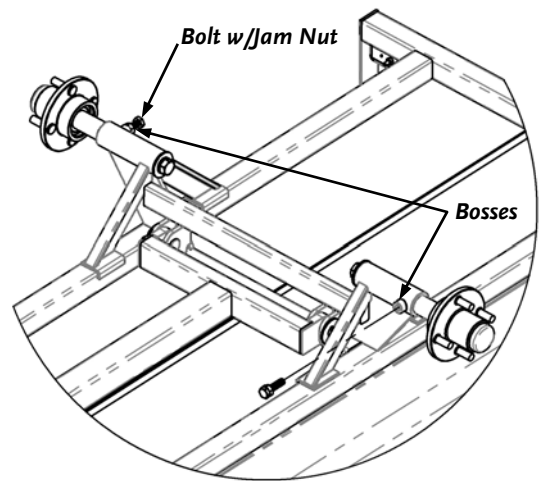

Figure 12
10. Insert the two M10 x 40mm Retaining Bolts into the Axle Bracket Boss(es) (**Figure 12**) and tighten the Bolt with a 16mm Socket. Tighten the Jam down against the Boss using a 17mm Wrench.